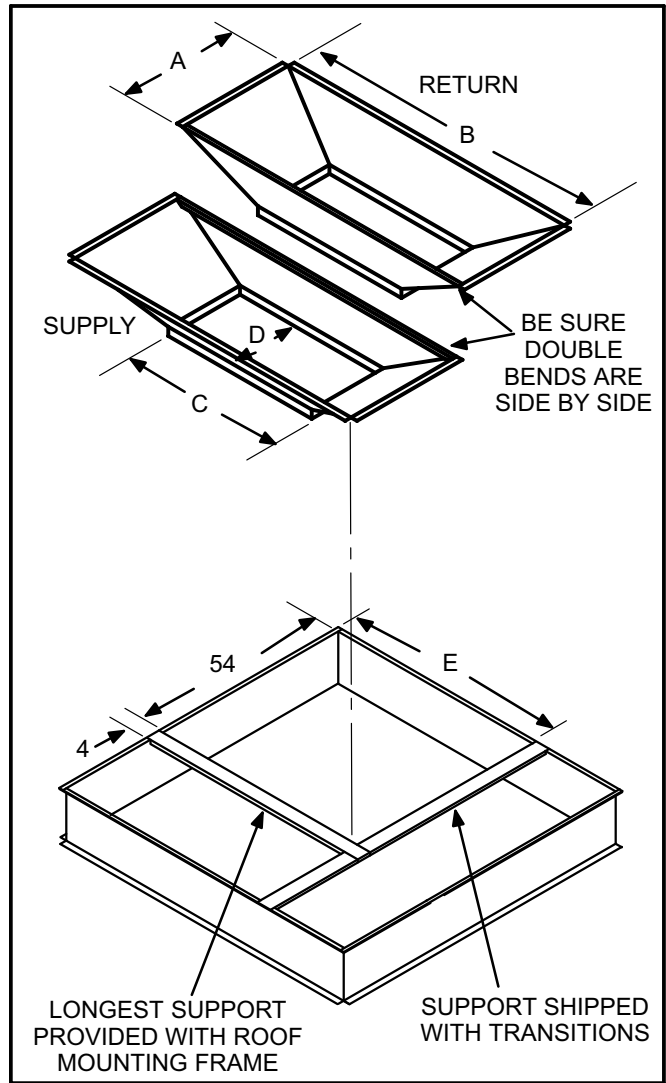

FIGURE 1
- 2- Install the supply and return air braces as shown in figure 1.